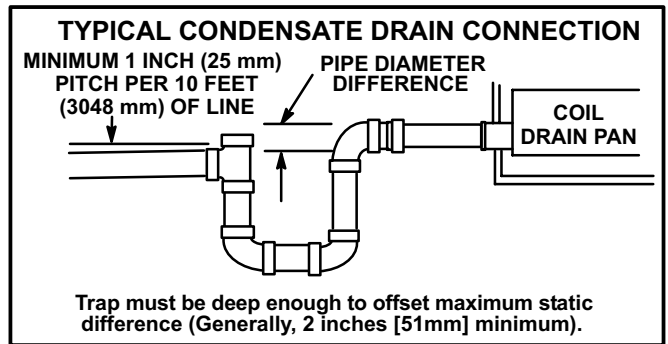

FIGURE 7
Connect main condensate drain and route downward to an open drain or sump. Do not connect drain to a closed waste system. Refer to figure 7 for typical condensate trap configuration.
- 6 -Drains should be constructed in a manner to facilitate future cleaning and not interfere with filter access. See figure 7.